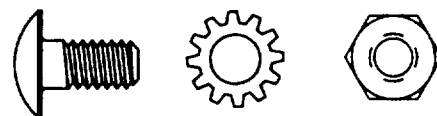

Fig. 12 - Truss Head Bolt, Lockwasher, Hex Nut
3. Most parts of your radial arm saw will be fastened together using truss head bolts, lockwashers and hex nuts of the sizes shown. (Figure 12) When different sizes are needed, the instructions will include a sketch to help you locate the correct size.